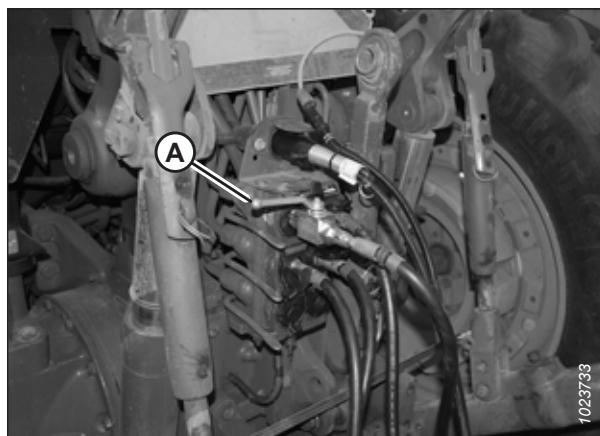
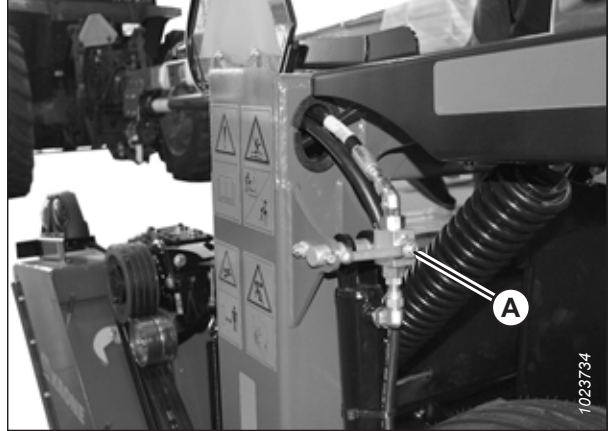

Figure 3.84: Steering Lock-Out Valve
Figure 3.85: Lift Cylinder Lock-Out Valve
11. Close the steering lock-out valve and the two lift cylinder lock-out valves by turning the handles to the closed position. For instructions, refer to Figure 3.84, page 83 and Figure 3.85, page 84.